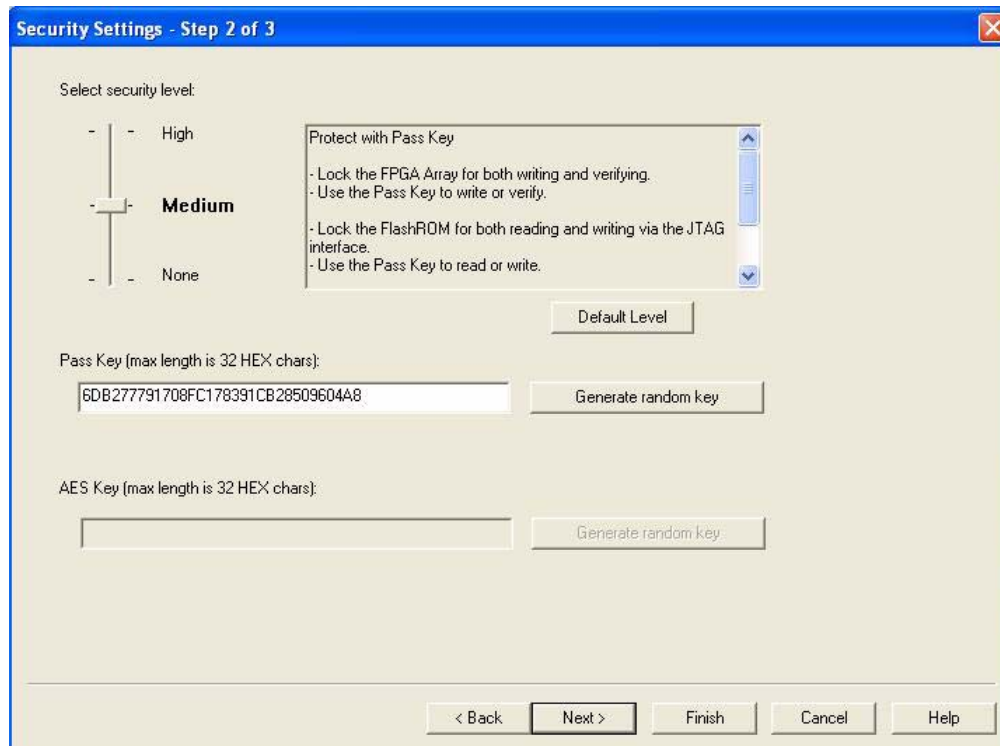

Figure 15-12 • Medium Security Level Selected for Low Power Flash Devices
2. Choose the appropriate security level setting and enter a FlashLock Pass Key. The default is the **Medium** security level (Figure 15-12). Click **Next**.